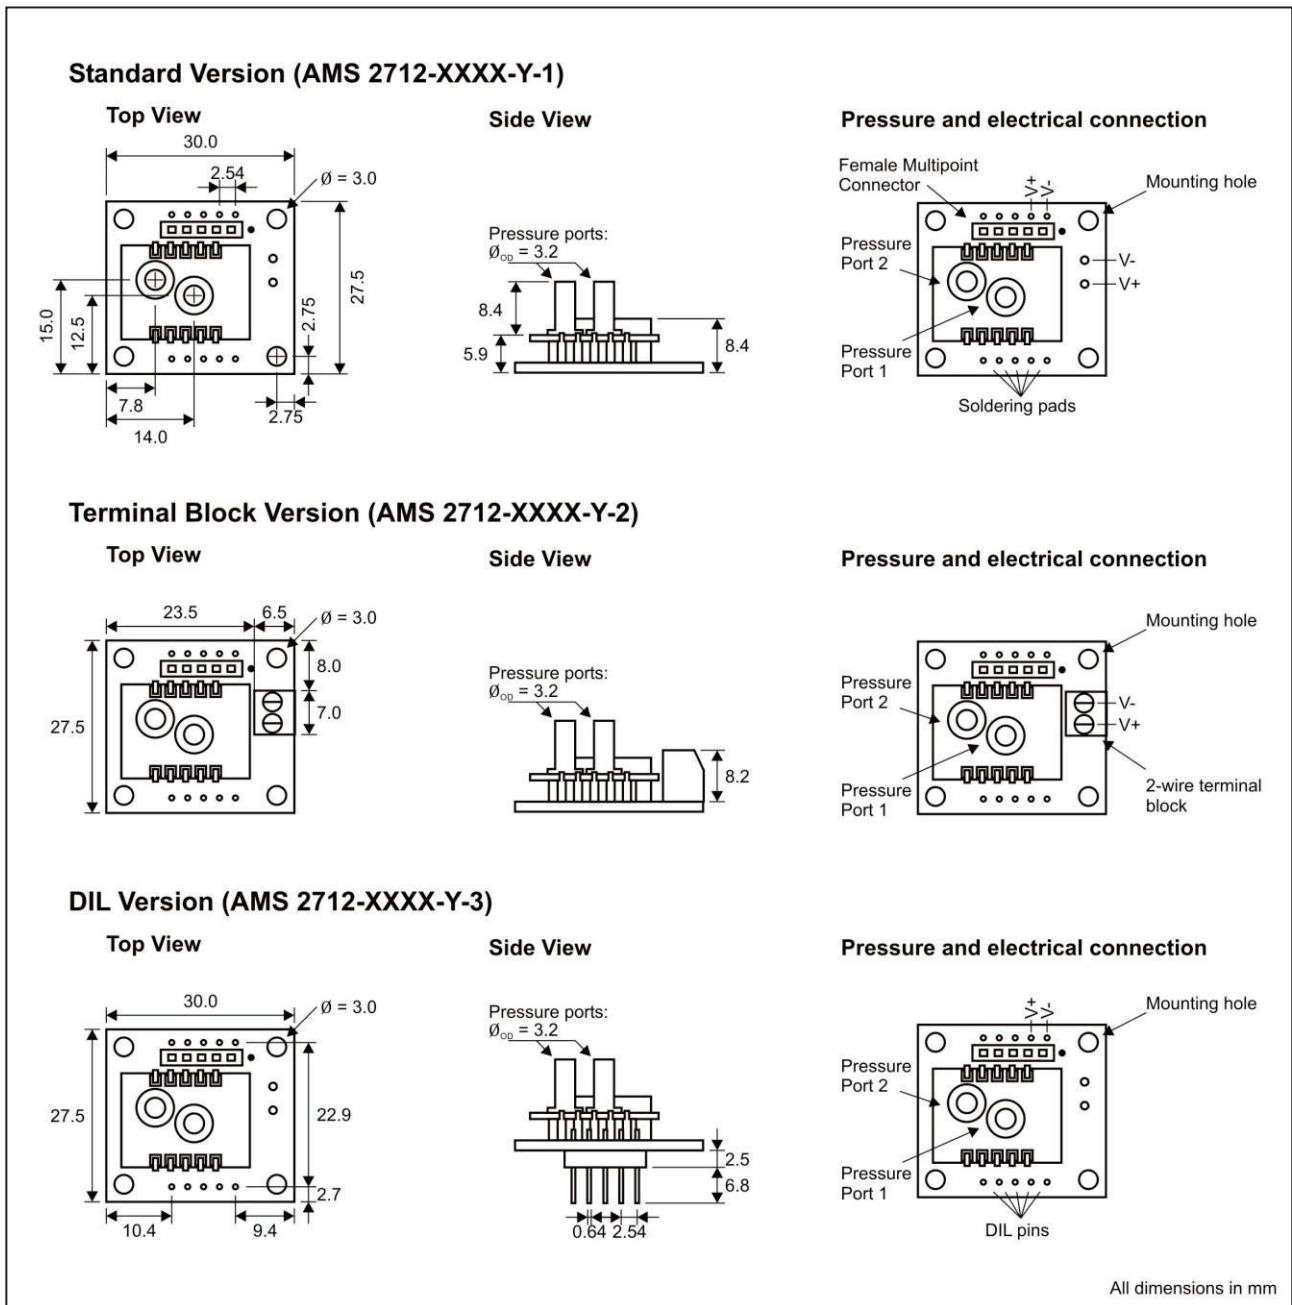

Figure 3: Dimensions and pinout of AMS 2712
- 8) Media compatibility of pressure port 1 (for a description of port 1, see *Figure 3*): fluids and gases non-corrosive to ceramics, silicon, Pyrex and RTV silicone rubber.
- 9) Media compatibility of pressure port 2 (for a description of port 2, see *Figure 3*): clean, dry gases, non-corrosive to ceramics, silicon, RTV silicone rubber, gold and tin (alkaline or acidic liquids can destroy AMS 2712).
¹ The applied pressure p is the pressure difference between port 1 and 2 for differential and bidirectional differential pressure sensor modules. For relative pressure types it is the pressure difference between port 1 and ambient pressure and for absolute and barometric pressure types it is the pressure at port 2 (for the definition of ports see *Figure 3*).
In practice AMS 2712's electrical connection can be established in the following ways: In the standard version (type AMS 2712-XXXX-Y-1, where XXXX has to be replaced with the four-digit pressure range and Y with the symbol for the pressure type, see "Information for Ordering") it is possible to solder wires to the respective soldering pads (see *Figure 3*) or to use a male multipoint connector (matching to TE connector 215297-5). In the terminal block version (type AMS 2712-XXXX-Y-2) a terminal block allows the installation of a cable without soldering. The DIL version (type AMS2712-XXXX-Y-3) can be easily plugged or soldered onto a PCB using its DIL pins.
The pressure connection is made using AMS 2712's metal pressure ports. Depending on the used type of pressure sensor module and the type of measuring pressure one or two of the pressure ports have to be connected to the measuring media/volume. For the pressures at port 1 and port 2 (for definition of the ports see *Figure 3*) the following requirements have to be fulfilled, where p_1 is the pressure at port 1 and p_2 is the pressure at port 2: